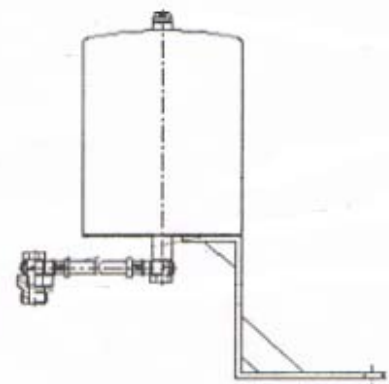

Figure 1
4. Refer to figure 1 below. This shows recommended fill level for lubricant. Remove plug and check oil level.
1. Locate the expansion unit provided with Mixer. (pictured in figure 1.)